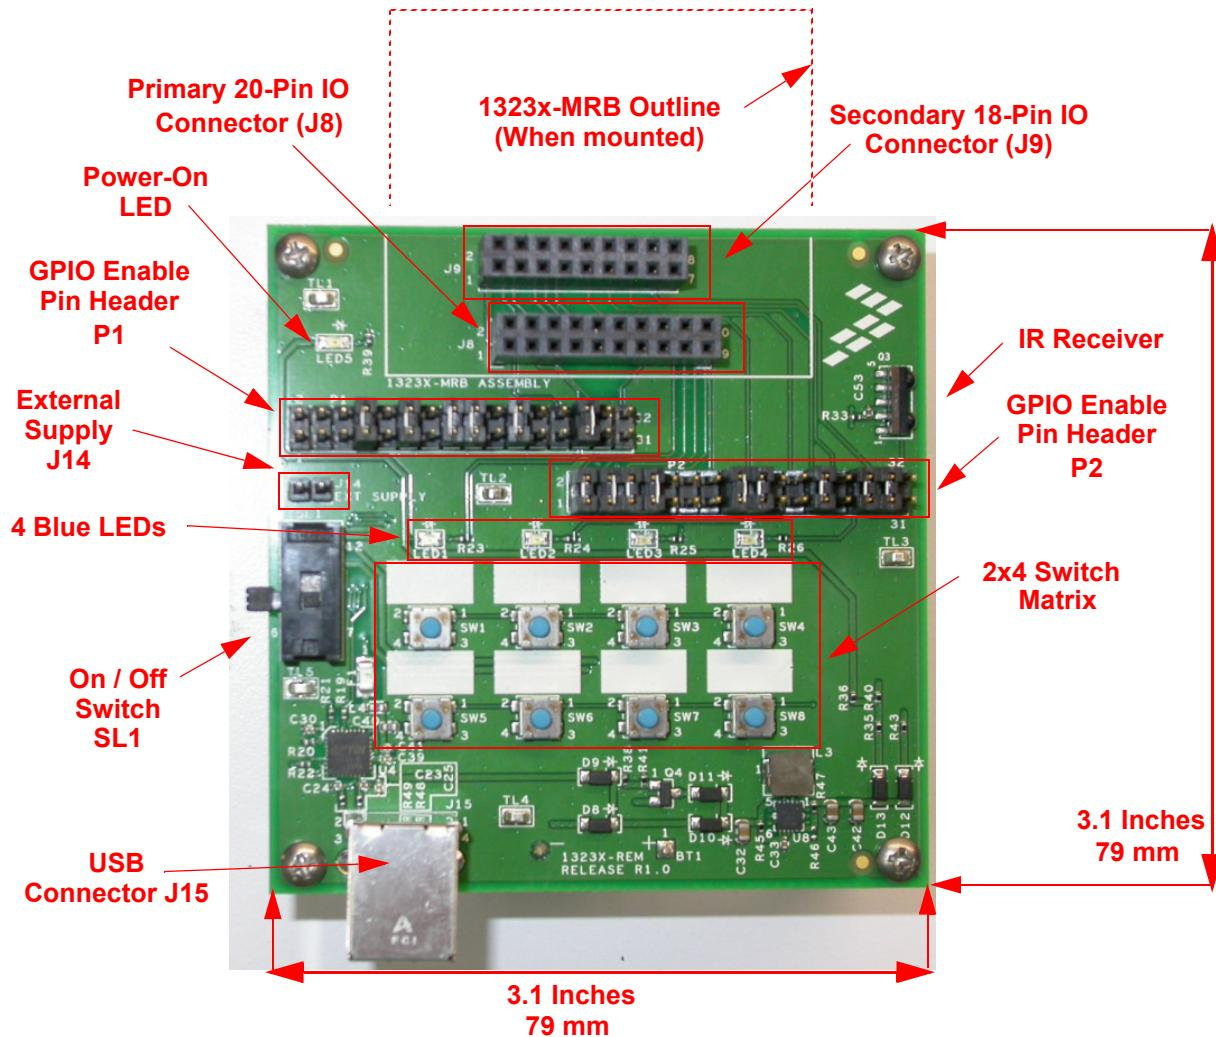

Figure 5-1. 1323x-REM
Figure 5-1 shows a photo of the 1323x-REM showing the locations of connectors and headers.
The 1323x-MRB mounts on the 1323x-REM via receptacles J8 and J9. Figure 5-1 shows an outline of the 1323x-MRB placement when mounted.
- Figure 5-1 for location of connectors and features
IO Connectors J8 and J9 (see Figure 5-1) are receptacles that accept the 1323x-MRB pin headers to mount the daughter card. Figure 5-4 shows the 1323x-REM with the 1323x-MRB mounted. Receptacles J8 and J9 connect to the MC13233 GPIO.